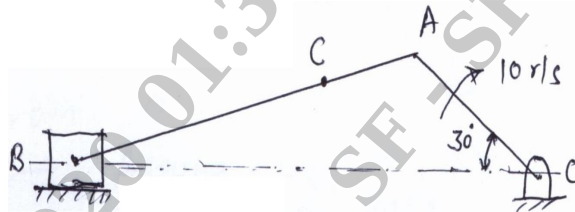

Fig.Q.3
- 3 In the slider crank mechanism shown in Fig.Q.3. the crank rotates at 10r/s, uniformly in clockwise direction. Determine: i) The acceleration of the connecting rod ii) Acceleration of the slider B iii) Acceleration of a point C on connecting rod. The lengths of various links are $OA = AC = 200\text{mm}$ $AB = 600\text{mm}$ $\angle AOB = 30^\circ$ solve by relative method. (16 Marks)